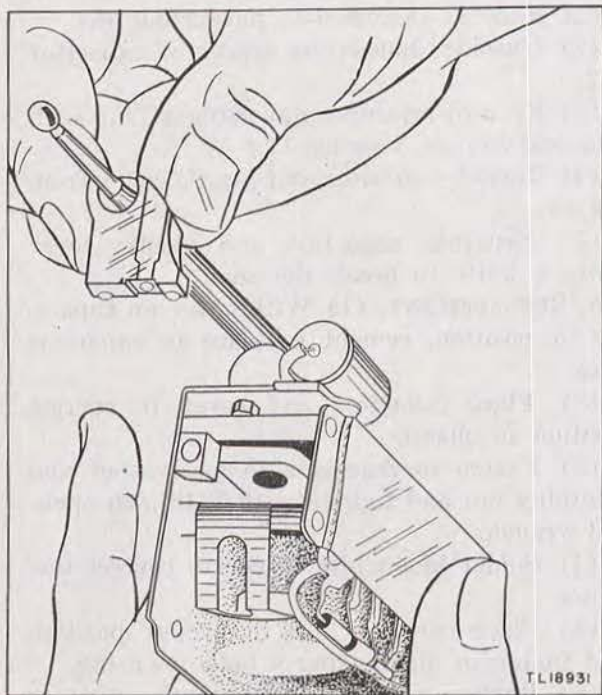
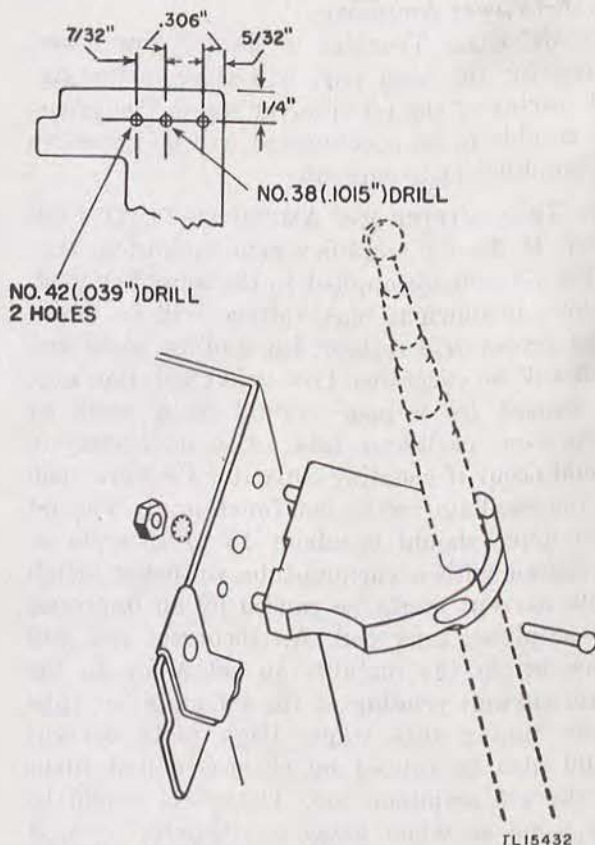

Figure 42. Removal of antenna insulator, Radio Receiver and Transmitter BC-611-(*).
Figure 43. Chassis drill layout, Radio Receiver and Transmitter BC-611-(*).
a. REMOVAL. (1) Remove antenna support insulator retaining screw and lockwasher.
(2) The insulator is located on the chassis by the use of lugs on the insulator and location of holes in chassis. Separate insulator from chassis and slide over the antenna. (See fig. 42.)
b. REPLACEMENT ON PRODUCTION EQUIPPED CHASSIS. (1) With insulator in correct position, as shown in figure 42, slide over the antenna.
(2) Slide screw and lockwasher into proper place in insulator.
(3) Align the positioning lugs of the insulator with the holes in the chassis and tighten the retaining screw.
c. REPLACEMENT ON CHASSIS NOT PRODUCTION EQUIPPED. (1) Remove antenna and antenna guide as directed in paragraph 36*a*.
(2) Lay-out the holes in the chassis and drill in accordance with the information contained in paragraph 36.
(3) Replace antenna and antenna guide as indicated in paragraph 36*b*.
(4) With insulator in the correct position, as shown in figure 43, slide over antenna, and align positioning lugs of the insulators with the holes in chassis.
(5) Fasten in place with nut, screw, and lockwasher.